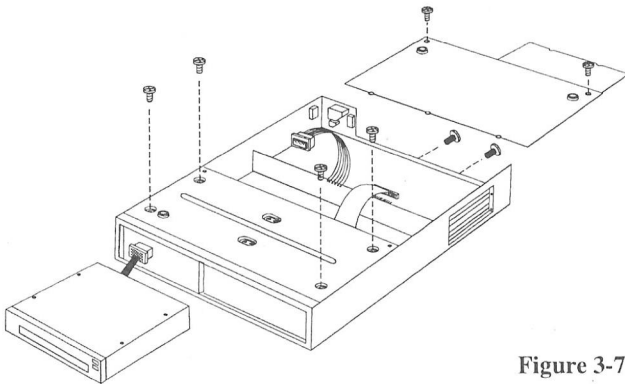

Figure 3-7
3. Using a phillips screwdriver, remove the four screws securing the dark gray, hinged bottom/rear panel (see figure 3.7).
4. Remove the hinged bottom/rear panel and set it aside (see figure 3.7).
5. Remove the screws securing the silver colored bottom panel (see figure 3.7). Remove the panel and set it aside.
4. Using a phillips screwdriver, remove the four screws securing the dark gray, hinged bottom/rear panel (see figure 3.7).
5. Remove the hinged bottom/rear panel and set it aside (see figure 3.7).
6. Remove the screws securing the silver colored bottom panel. Remove the panel and set it aside (see figure 3.7).